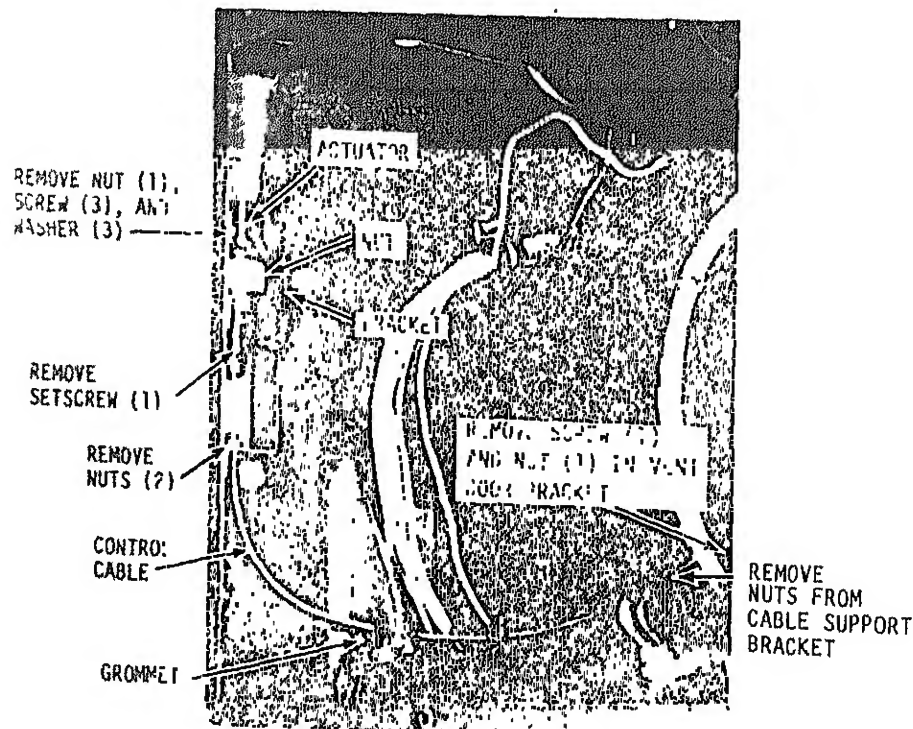

Figure 4-23. Vent damper actuator removal and installation
(2) Refer to figure 4-23 and disconnect the vent damper actuator and control assembly as follows:
(1) Refer to figure 4-23 and install the vent actuator as follows: